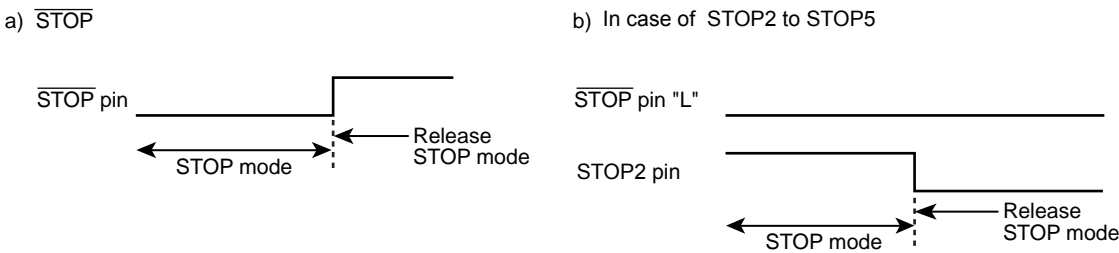

Figure 14-3 Priority of STOP pin and STOP2 to STOP5 pins
- Note 6: When the STOP mode is released by STOP2 to STOP5 pins, the level of  $\overline{\text{STOP}}$  pin should hold "L" level (Figure 14-3).